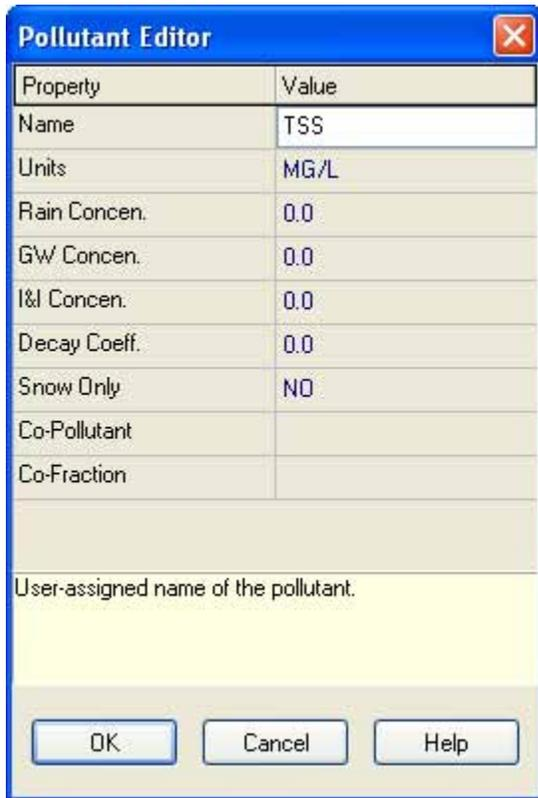

Figure 2-17. Pollutant Editor dialog.
3. In the Pollutant Editor dialog that appears (see Figure 2-17), enter TSS for the pollutant name and leave the other data fields at their default settings.